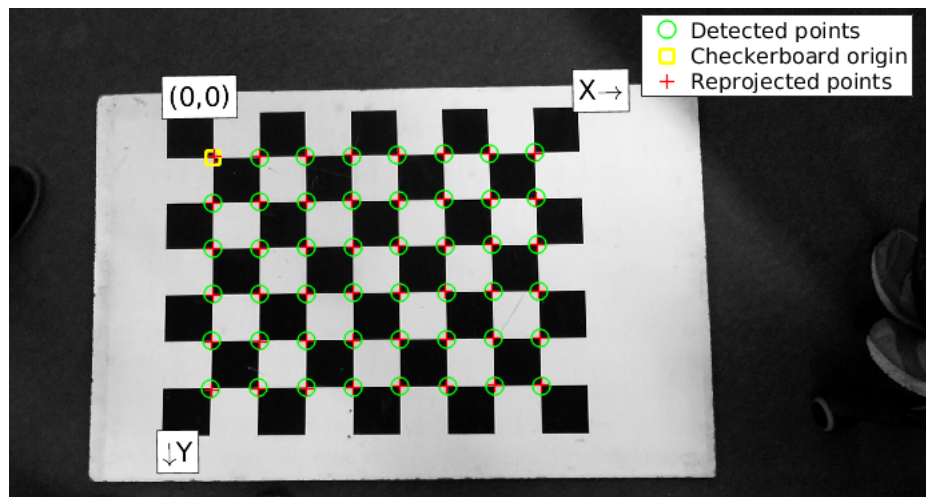

Figure 2: Border Detection
- For each image the patter will find the corners of the patter, i.e figure 2.